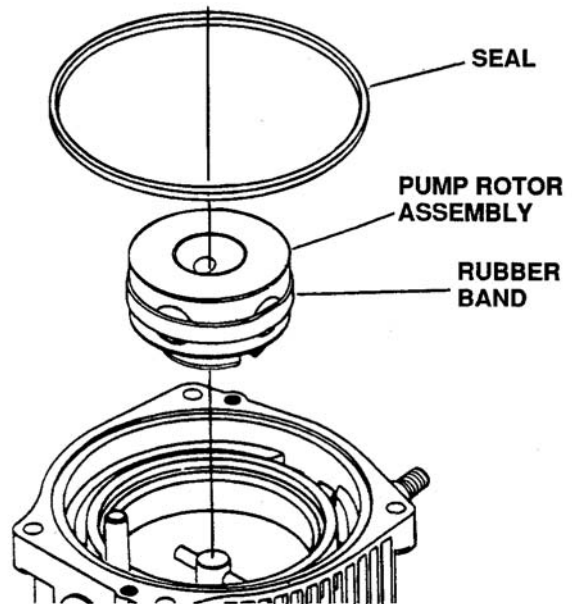

Figure 6-98. Removing Pump Rotor Assembly
- 11. Remove seal from cover, lift pump rotor assembly intact from the cover assembly. See Figure 6-98.